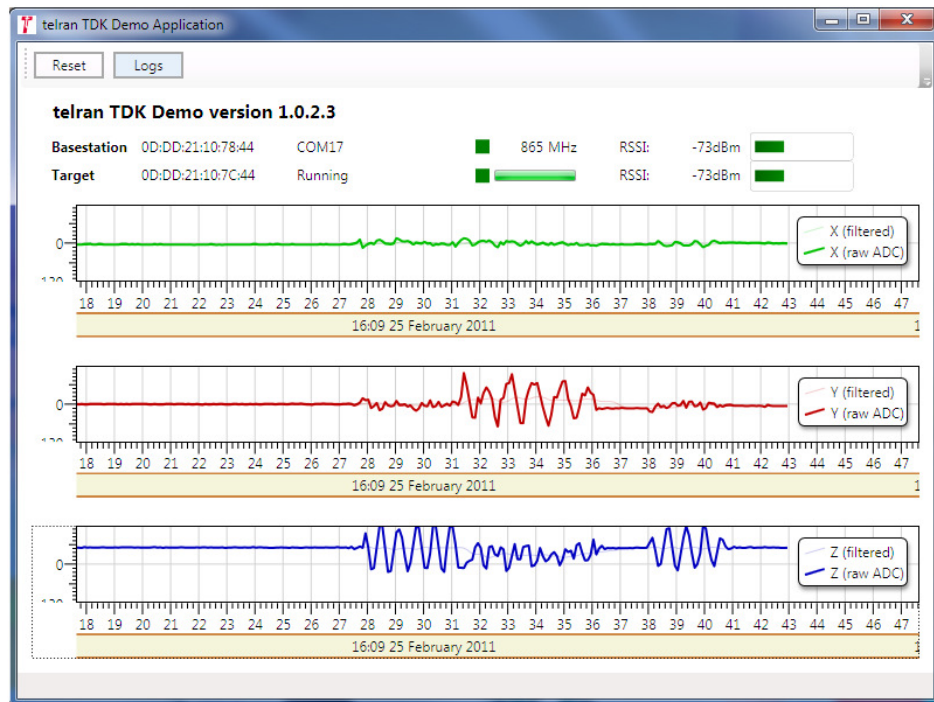

Figure 16. Application running with linked target.
7. Once a Target Station has been found the Application will link with that target and start running, Figure 16.